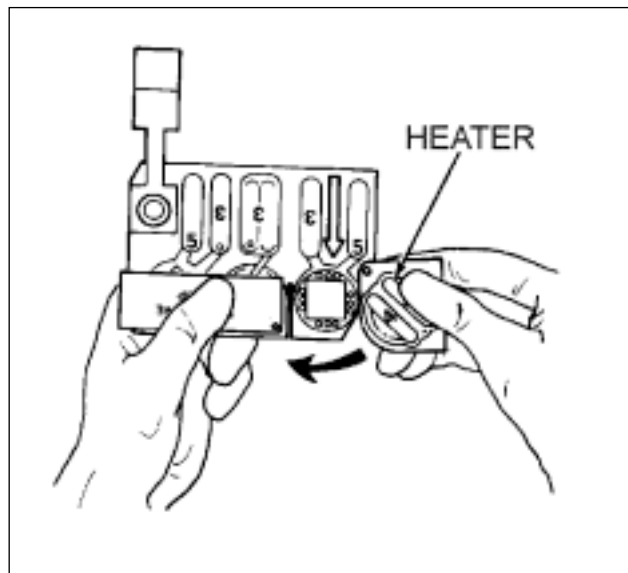

Fig 4-17. Replacing heater ampoules.
- (b) Use the heater pads, crush one green ampoule, and swing the heater immediately over the test spot (fig 4-17).